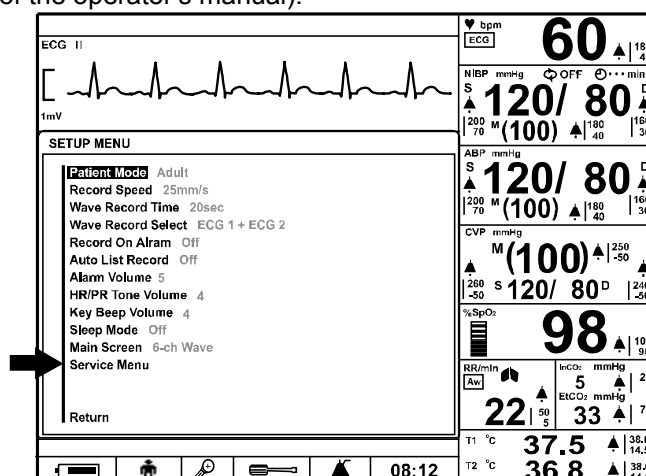

Figure 12. The access of Service Menu via Set-up menu
The purpose of the Service menu (Figure 12, Table 9) is to allow the authorized user to create a Power-on default for the settings in effect each time the monitor is powered on. Once the Service menu is entered, physiological monitoring is terminated. The screen layouts do not display any information associated with normal monitoring operation. Use the following procedure to configure the Service Menu for the monitor (also see **Using the Monitor** section of the operator's manual):
4. Three digits are displayed in the Level 2 Menu as shown in Figure 12.